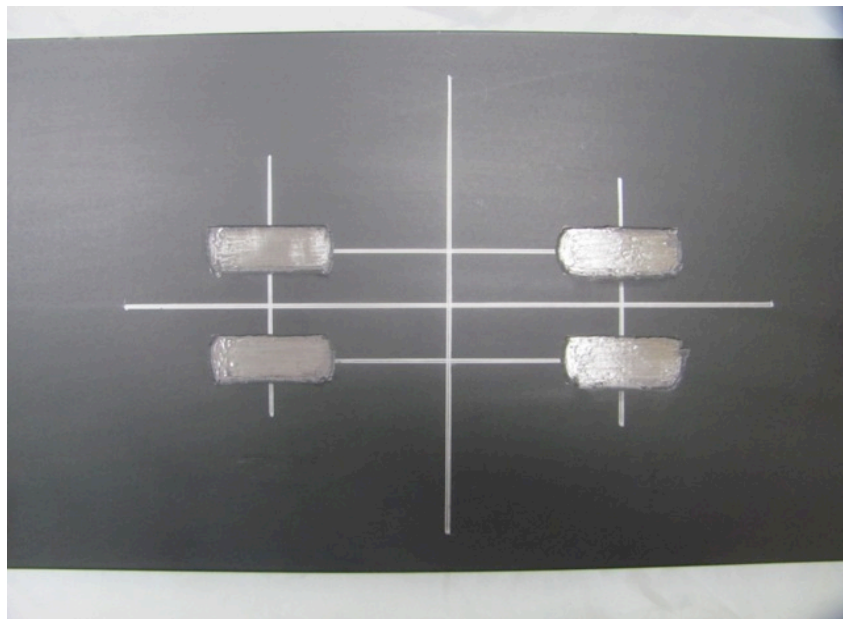

Figure 11: Steel Member Prepared for Adhesive
- Remove paint or scale from the areas shown in Figure 11 using a power grinder until a clean metal surface is obtained.